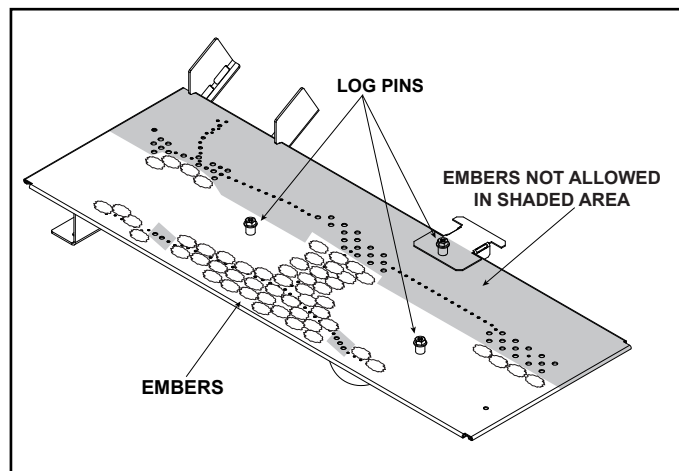

Figure 2. Log Pin and Glowing Ember Locations
6. Locate the glowing embers and install them as shown in Figure 2. Do not install any glowing embers on the back row of burner ports. Glowing Embers can be placed directly over burner ports; however, for optimal front flame height, place glowing embers around the burner port clusters indicated by the “arrows” shown in Figure 8.